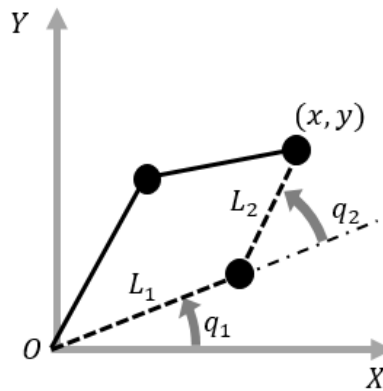

Figure 2: The kinematics of two-link manipulator. **Note that in the configuration shown,  $q_1$  and  $q_2$  have positive values.**
In this section, you will be implementing the forward kinematics (FK) of the two-link manipulator. The two-link manipulator is shown in Figure 2, in which we define the length of two links ( $L_1, L_2$ ) in meters, and joint positions ( $q_1, q_2$ ) in rad, and target endpoint position  $(x, y)$  in meters. **Both  $q_1$  and  $q_2$  are defined as positive about the Z axis (out of the page).** The goal is to compute the endpoint position when the joint positions are given and we will compare the computed (true) endpoint position with the actual endpoint position.